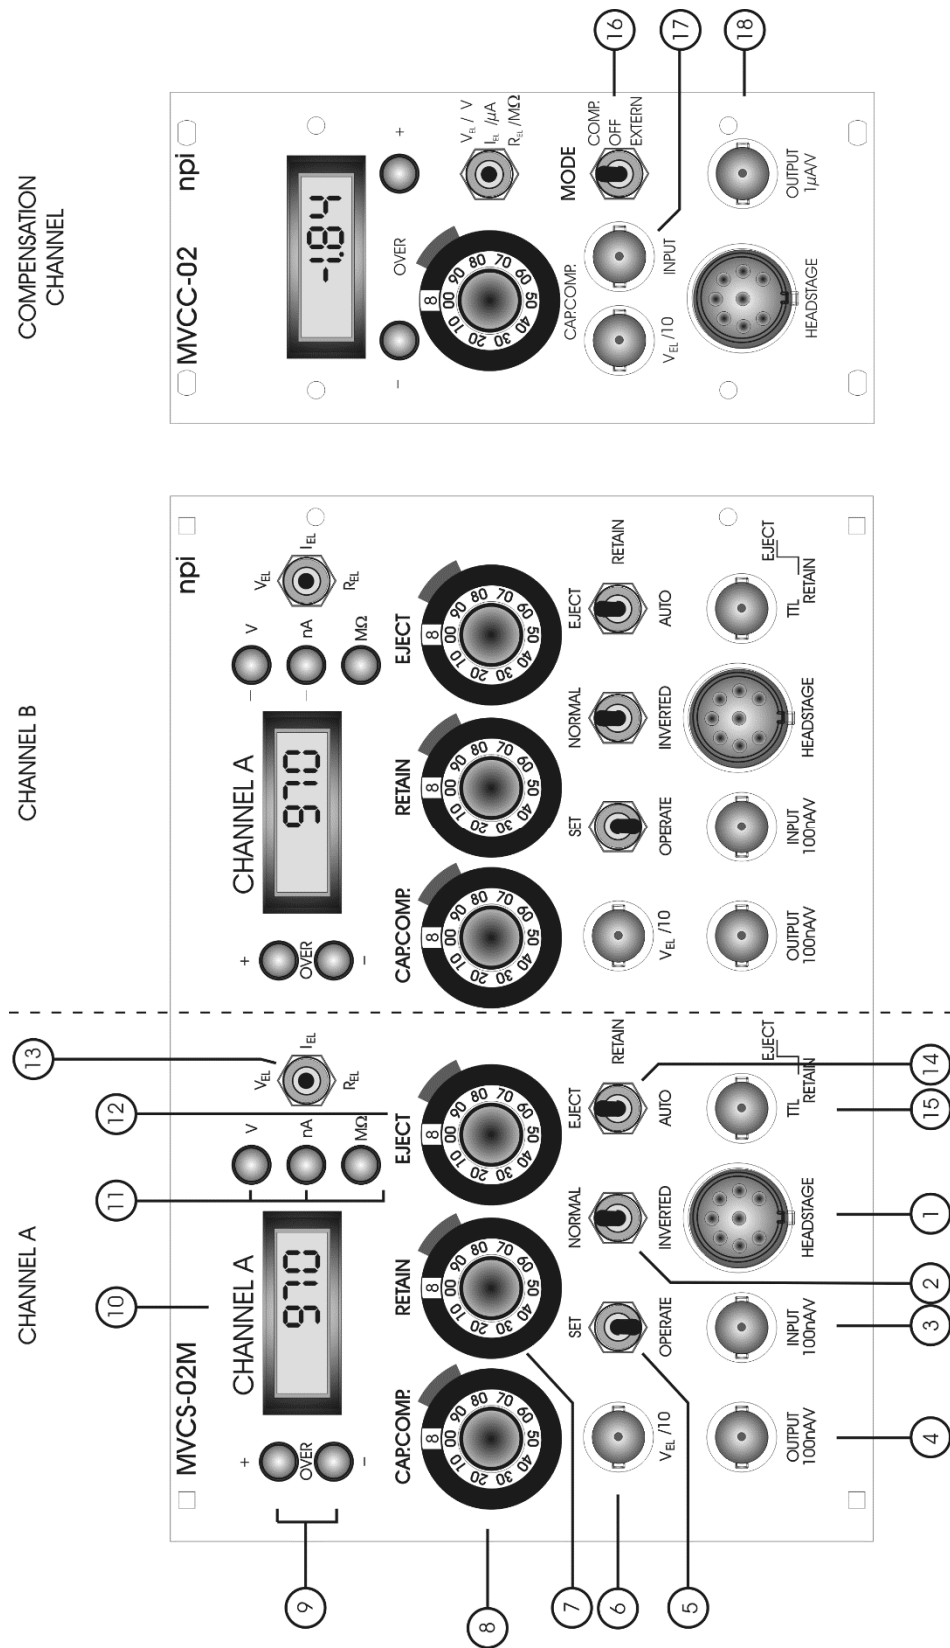

Figure 5: MVCS-C-02M / MVCC-C front panel view (the numbers are related to those in the text below)
In the following description of the front panel elements, each element has a number that is related to that in Figure 5. The number is followed by the name (in uppercase letters) written on the front panel and the type of the element (in lowercase letters). Then, a short description of the element is given.
Figure 5 shows the MCVS-C-02 / MVCC-C (fast systems) with capacity compensation and the automatic electrode resistance test facility. These two features are not present in the MVCS-02 / MVCC (slow systems). In slow systems the CAP. COMP. potentiometer is not installed and the function of R_{EL} is somewhat different (see below).
Hint: If one channel is not used the headstage can be left unconnected, but then the display for this channel will show arbitrary values. So, we recommend to connect the headstage even if it is not used and set channel to SET mode using switch #5, Figure 5).
MVCS-C / MVCC-C: Connect the headstages to the HEADSTAGE connectors (#1, Figure 5) at the front panel of the respective module.
- ☐ MVCS-C / MVCC-C: Connect the $V_{EL}/10$ connectors and the current OUTPUT (#4, Figure 5) to an oscilloscope or to a data acquisition system.
- ☐ If you intend to control the MVCS / MVCS-C system externally (e.g. by a computer) connect the gating signal to TTL (#15, Figure 5), the stimulus waveform to INPUT (#3, Figure 5) and the current OUTPUT (#4, Figure 5) to the analog input of the data acquisition system.
All numbered items refer to Figure 5, page 12, in the following discussion.